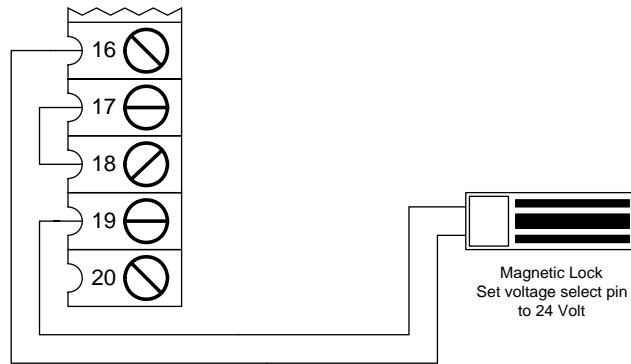

Figure 29
- Connect the magnetic lock as shown in Figure 29.